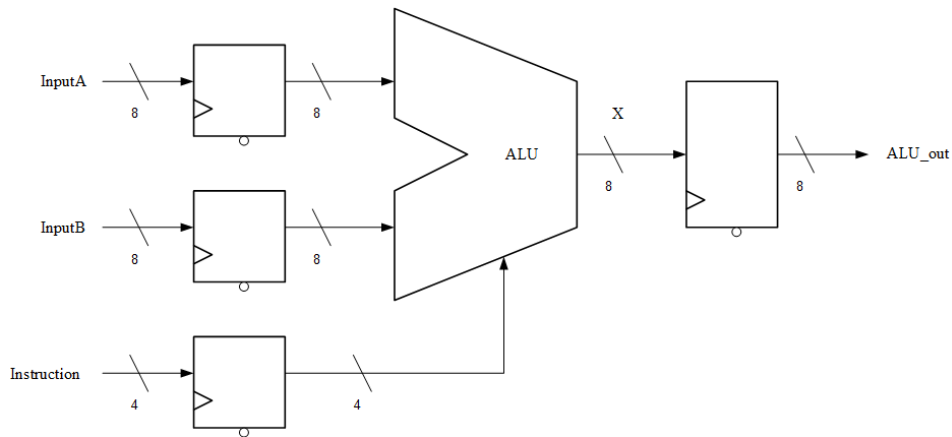

Figure 1. ALU architecture.
Figure 1 is a simple ALU with two 8-bit input signals and six instructions. You can input signals and select the functions with instruction. The functions and their corresponding instructions are defined in Table 1.
2. Construct the ALU described in Figure 1. Start from the module template *lab2_alu.v*, which defines the I/O of the module.